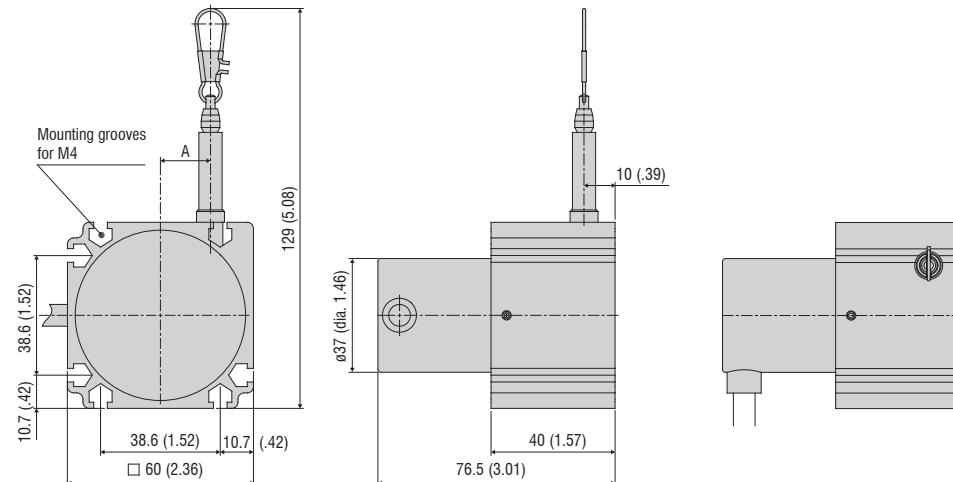

Fig. 2 Dimensional drawing WDS-...-P60-CR-P, dimensions in mm (inches, rounded off)
- Mount the sensor through mounting grooves for nut M4 DIN 934 or bolt M4 DIN 931, see Fig. 2 et seq.